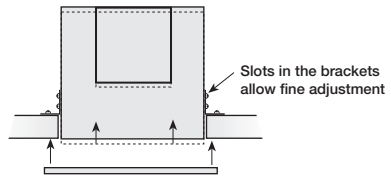

Figure 6
- Position unit between joists. Position brackets such that bottom edge of housing will be flush with finished ceiling, and tighten the adjustable mounting brackets, refer to Figure 6.